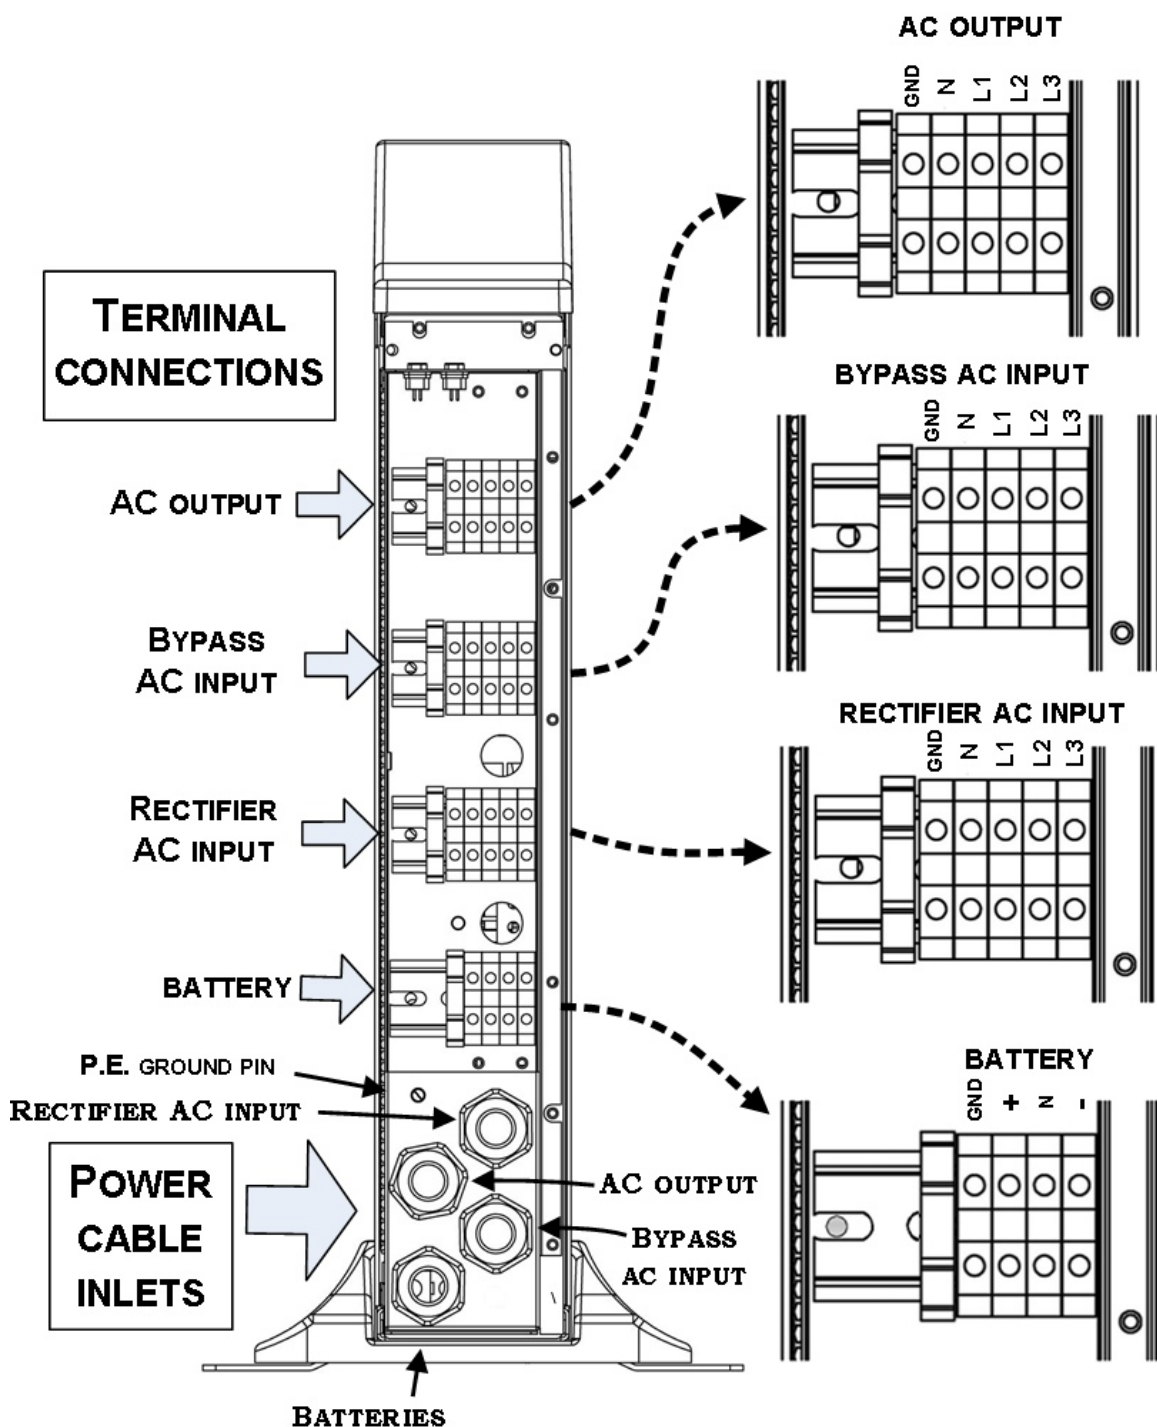

Figure 15-3: UPS rear panel view, with protective cover removed
4. Connect the UPS wiring according to the labeling on the unit, shown in Figure 15-3 on page 67.
5. Run the **ac output cable** through the cable holder labeled “ac output” in Figure 15-3 on page 67. Connect the cable to the ac output terminals, also detailed in Figure 15-3. Use the appropriate grade of wire as specified in Table 15-1 on page 64, or according to local electrical codes.
6. Run the two **ac input cables** through the cable holders labeled “ac input” and “Bypass ac input” in Figure 15-3 on page 67. Connect the cables to their respective input terminals (“Rectifier ac input” and “Bypass ac input”), also shown in Figure 15-3. Use the appropriate grade of wire as specified in Table 15-1 on page 64, or according to local electrical codes.
7. Run the **batteries cable** through the cable holder labeled “Batteries” in Figure 15-3. Use the appropriate grade of wire as specified in Table 15-1 on page 64, or according to local electrical codes.
4. On the **POWER+ SA**, run the battery cable through the cable holder labeled “Batteries”, shown in *Figure 15-3* on page 67. Attach the cable to the UPS’s “Battery” terminals as labeled in *Figure 15-8* above. The other end of the battery cable must be attached to the battery box terminals as labeled in *Figure 15-7* above.